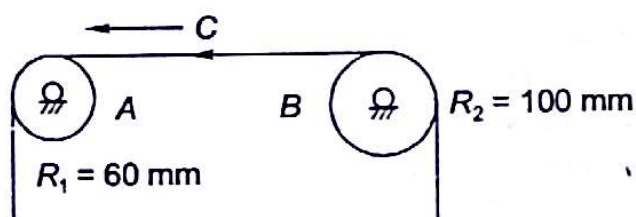

Fig. 13.15
13.3 A belt moves without slipping over two idler pulleys A and B of radius 60 mm and 100 mm respectively (Fig. 13.15) at a particular instant, velocity of point C is 0.48 m/s . What is normal acceleration over pulley A?